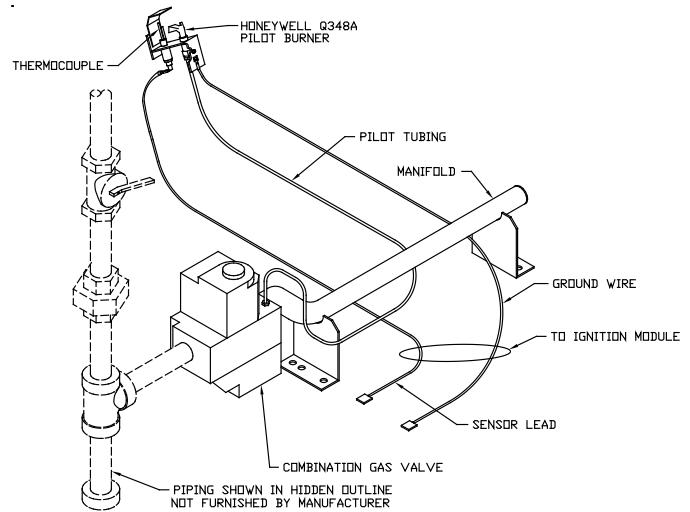

Figure 8: Pilot and Gas Piping,
3. Install sediment trap, ground-joint union and manual shut-off valve upstream of boiler gas control valve. See Figure 8.